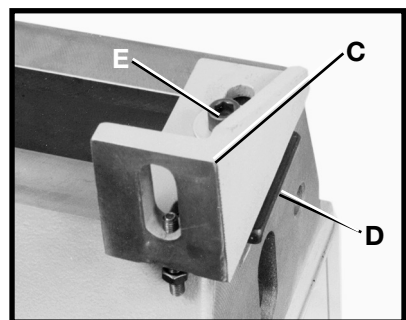

Fig. 5
4. Insert clamping plate (C) Fig. 5 of mounting bracket assembly (D) into channel on tailstock end of lathe bed.